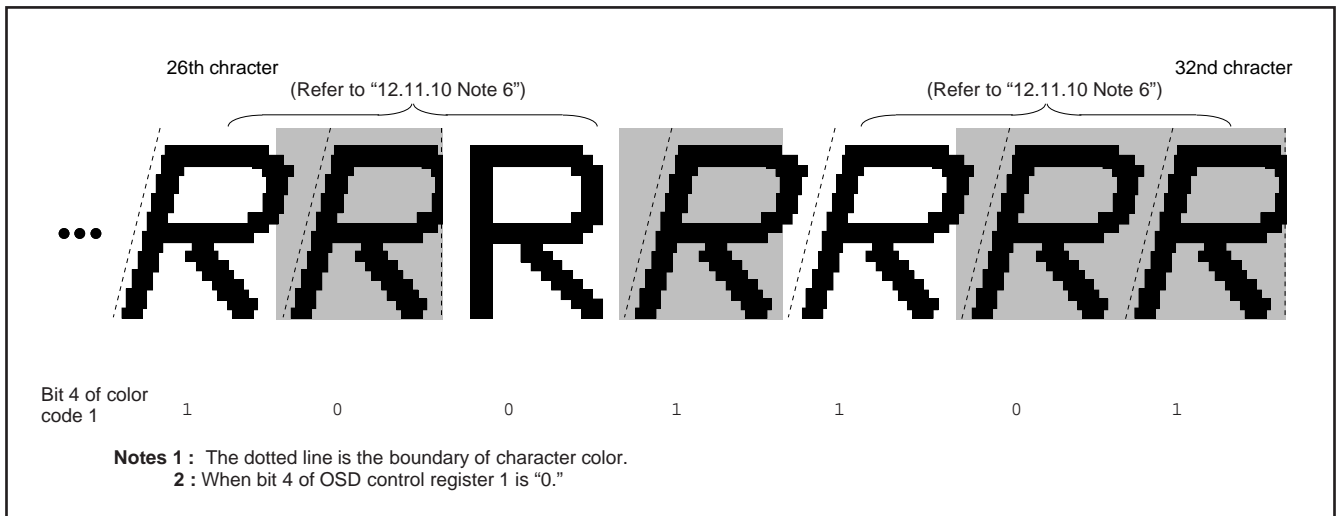

Fig. 12.11.31 Example of Italic Display
The display example of attribute is shown in Figure 12.11.31. In this case, "R" is displayed.
- 5: The boundary of character color is displayed in italic. However, the boundary of character background color is not affected by the italic (refer to Figure 12.11.31).
- 6: The adjacent character (one side or both side) to an italic character is displayed in italic even when the character is not specified to display in italic (refer to Figure 12.11.31).
The border is output only in the OSD mode. The all bordered (bordering around of character font) and the shadow bordered (bordering right and bottom sides of character font) are selected (refer to Figure 12.11.31) by bit 2 of the OSD control register 1 (refer to Figure 12.11.3). The ON/OFF switch for borders can be controlled in block units by bit 2 of the block control register i (refer to Figure 12.11.4).